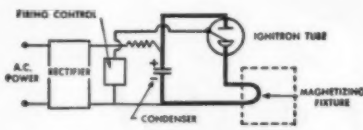

Figure 4—Circuit for energy-storage-type magnetizer
(2) Energy-storage type (Figure 4). Here, a capacitor is charged at a relatively slow rate, and then discharged into the magnetizing circuit. This type of equipment is extremely versatile; tremendous peak currents are possible from low-capacity power systems.